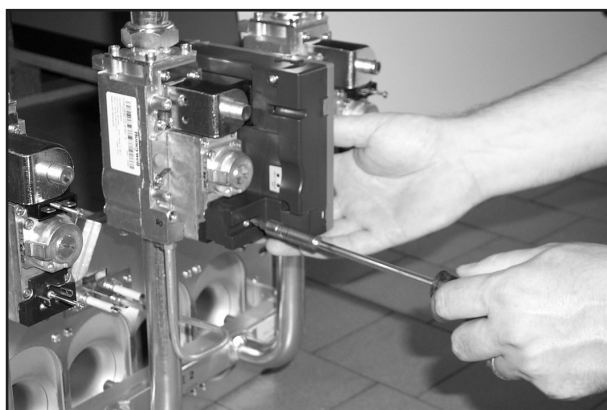
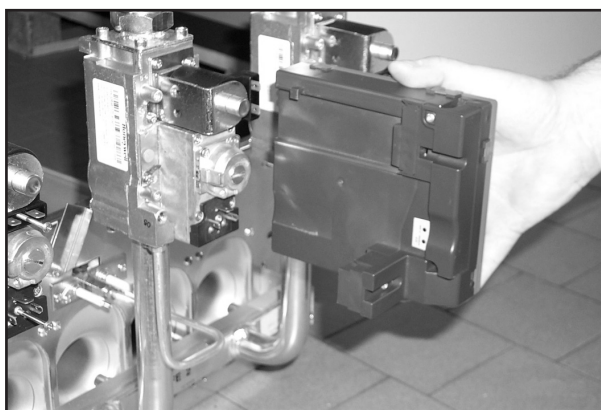

fig. 17
fig. 18
- Unscrew the two screws securing the electronic flame controller to the gas valve (Fig. 17) and extract it from this valve (Fig. 18).